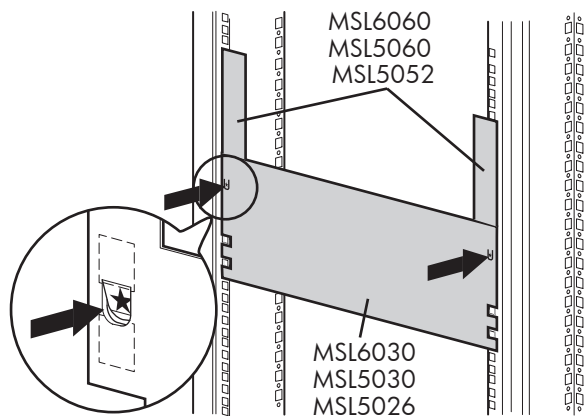

Figure 12: Library template (9000 rack enclosure shown)
2. Remove the template and then attach the rails using the supplied fasteners (see Figure 12). The front rail brackets are threaded to directly accept screws. The rear brackets are not threaded and require cage/clip nuts in the rack enclosure rear vertical rails.